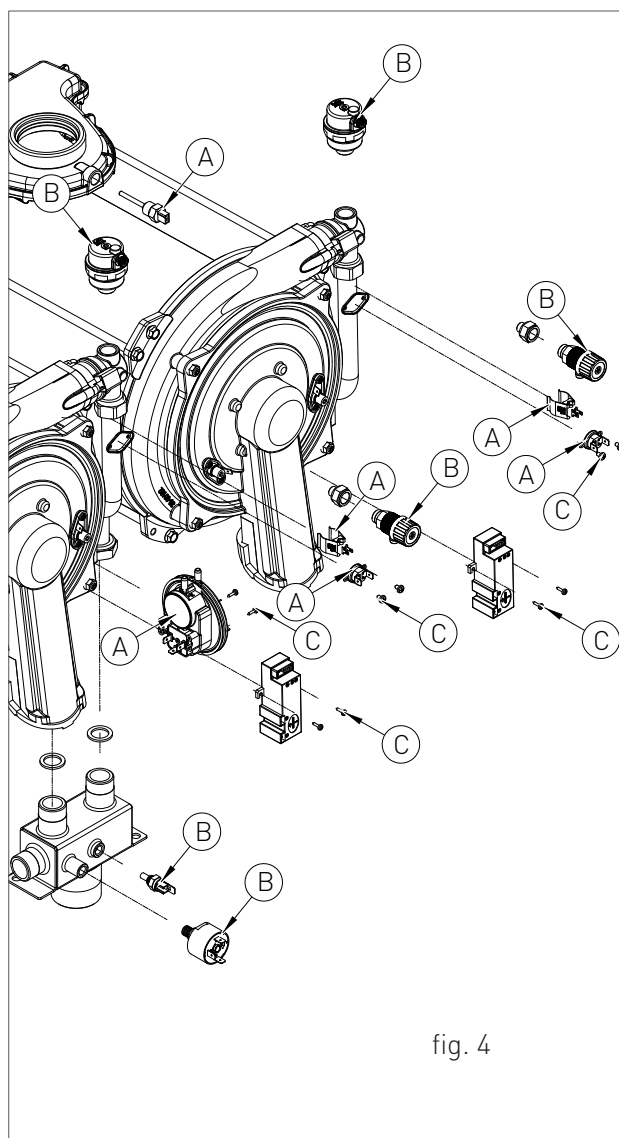

fig. 4
MISCELLANEOUS ITEMS (FIG. 4 - A)
- Unscrew the fixing screws (fig.4 - C).
MISCELLANEOUS ITEMS (FIG. 4 - B)
- Un-screw the components (fig. 4 - B).